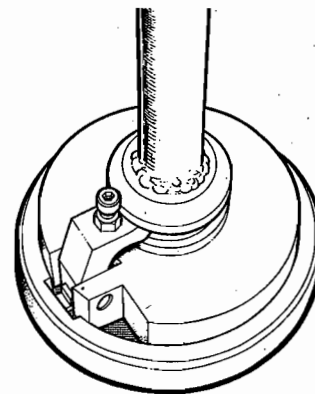

FIG. 8 SETTING CUTTING DEPTH USING RING GAUGE
3. Set cutting tool, using depth gauge shown in Fig. 8, by operating knurled feed nut. Lock stop screw.